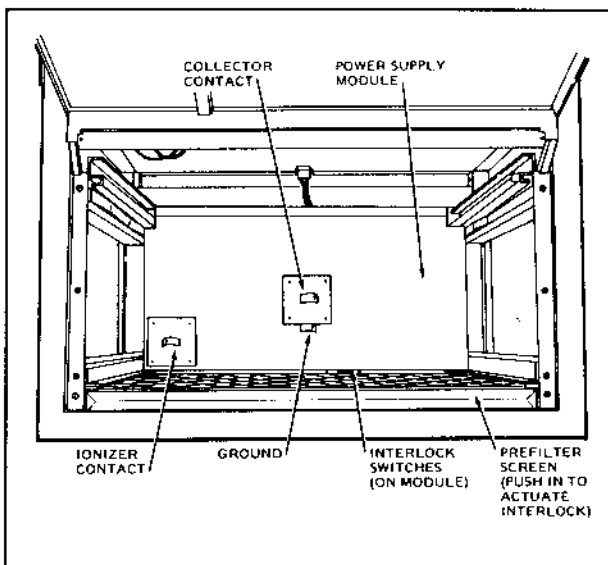

FIGURE 10 - MEASURING CELL INPUT VOLTAGE
- c. Using a voltmeter, measure the voltage from the collector contact to ground. See Figure 10.
- e. Using a voltmeter, measure the voltage from the ionizer contact to ground. See Figure 10.
- b. Remove power supply module from the air cleaner. See Figure 10 and 15.
NOTE: THE POWER SUPPLY MODULE CAN BE REMOVED THROUGH THE CELL ACCESS DOOR, IF THE PRE/POST FILTER AND THE CELLS ARE REMOVED FIRST. SEE FIGURE 10 AND 15.